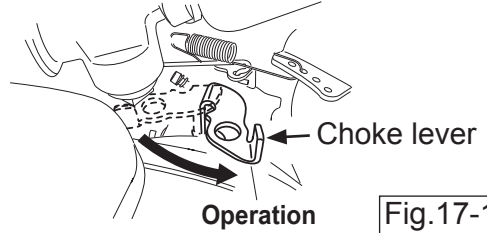

Fig.17-1
- 6 When the engine has started, return the speed control lever to the low speed position immediately. Listening to the sound of the explosion, return the choke lever gradually to the fully open condition. (Fig.17-1, 17-2, 17-3)